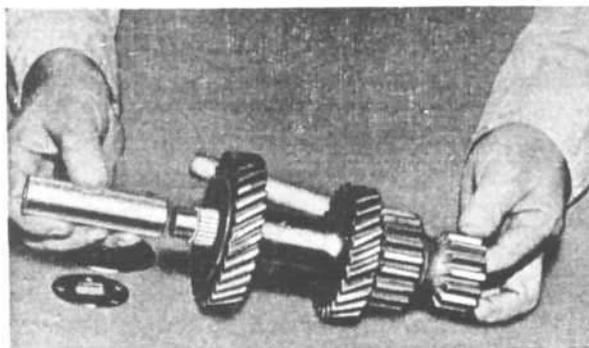
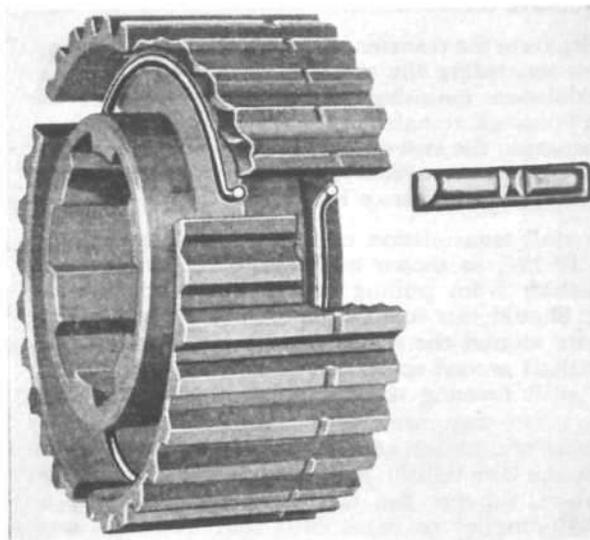

FIG. 191—COUNTERSHAFT GEAR BEARING ARBOR
FIG. 193—SYNCHRONIZER SPRINGS
g. Using special tool No. W-166 (Fig. 191) or a brass drift, drive the countershaft (45) toward the rear of the case and remove it. The countershaft gear set (55) will drop to the bottom of the transmission case. If the special tool is used, the needle bearings (49 and 51) will remain in the countershaft gear hub and the gears and bearings may later be removed as an assembly.
- b. Assemble the spacer (52), six washers (48 & 50), and four countershaft needle bearings (49 & 51) in the countershaft gear hub, using special tool (W-193 for F4-134 models and W-166 for L6-226 models) with loading sleeve as shown in Fig. 191 & 192. Place the spacer inside the hub and insert the special tool in the spacer. Place a washer at each end of the spacer and load a set of bearing rollers at each end. Then add a washer, a set of bearing rollers, and finally another washer at each end to complete the assembly. Place the countershaft gear assembly in the case but do not install the countershaft until the mainshaft and main drive gear are installed.
- c. The countershaft gear set, when assembled in the case, should have .012" to .018" [0,305 to 0,457 mm.] end play. This clearance is obtained by selective thickness of the rear steel thrust washer (46) which is available in .0555" and .0625" [1,410 to 1,587 mm.] thickness.
- d. To assemble the countershaft gear set in the case, first install the large bronze thrust washer (33) at the front of the case with the lip of the washer entered in the slot of the case. Use heavy grease to hold this washer in position. Next, install the steel thrust washer (46) at the rear of the case. Start the countershaft into the case just enough to hold this washer in place. Be sure the thrust washers are correctly positioned. Then position the bronze-faced washer (47) against the rear end of the gear and place the gear in its running position. Tap the countershaft through the countershaft gear set and the case, forcing out the special tool.
- f. The sequence of assembly of the synchronizer unit is shown in Fig. 193. First install the two springs in the high and intermediate clutch hub (37) with the spring tension opposed. Place the right lipped end of one spring in a slot of the hub and